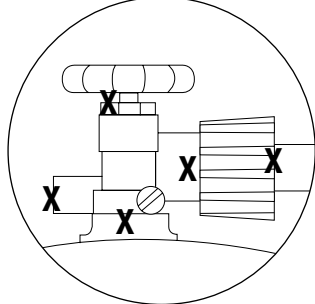

Figure 3
2. Make sure control knobs are "OFF" position. (Figure 3)
3. Control knob must be in the OFF (OFF) position. (Figure 3)